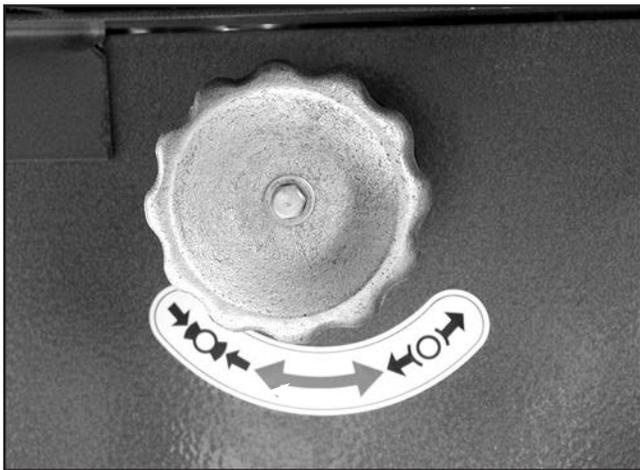

Figure 33. Location of spindle lock.
1. Loosen the spindle lock shown in **Figure 33**.